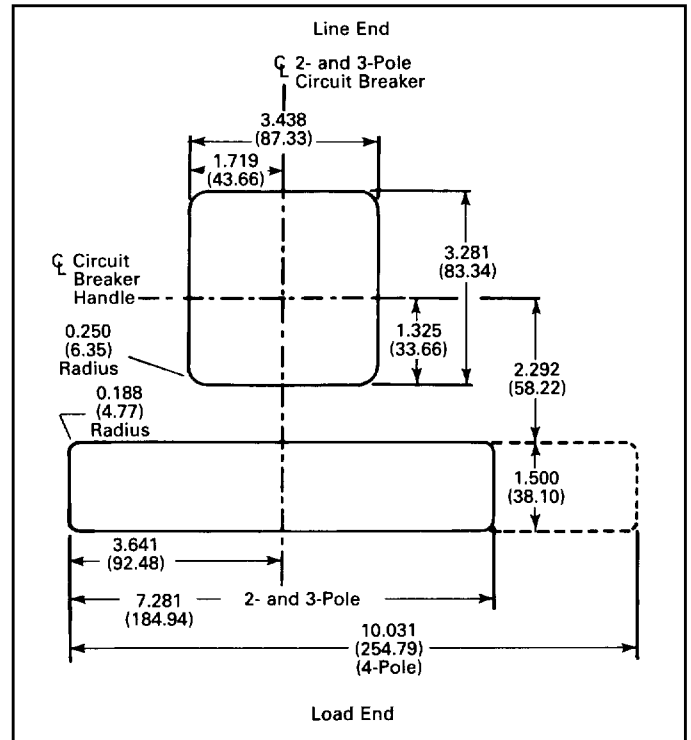
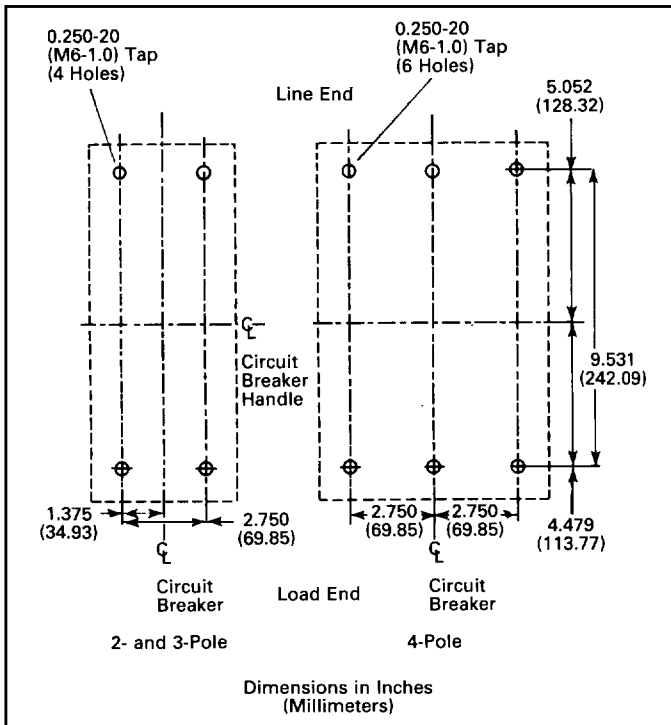

Fig. 2-3 Circuit Breaker Escutcheon Cutout Dimensions for 2-, 3-, and 4-Pole Circuit Breakers
Fig. 2-2 2-, 3-, and 4-Pole Circuit Breaker Mounting Bolt Drilling Plans
- a. For individual surface mounting, drill mounting panel using the drilling plan shown in Fig. 2-2. For panelboard mounting, only load end support mounting holes are required. For deadfront cover applications, cut out cover to correct escutcheon dimensions, see Fig. 2-3.
Existing cutouts must be modified to agree with requirements shown in Fig. 2-3.